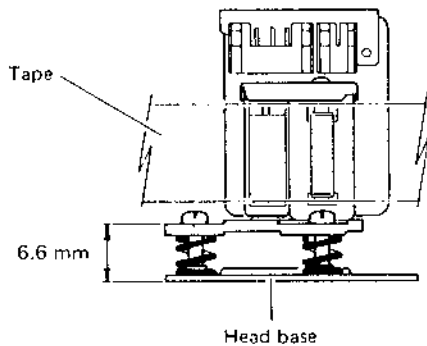

Fig. 1-2-4 A/C head height
- 2) Before installing the A/C head on the main-deck, perform rough-adjustment of A/C head height as shown in Fig. 1-2-4